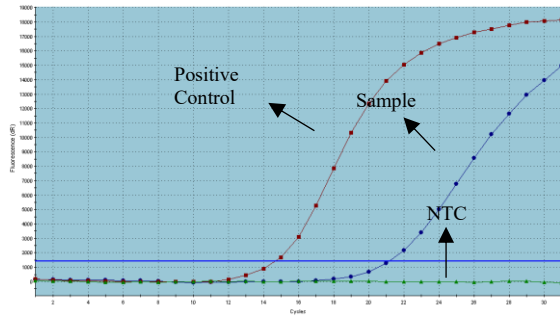

Figure 1 Curve of sample with mutant *BRAF* gene
- a) If the sample FAM Ct value is < 28 , the sample is determined as positive (Figure 1).